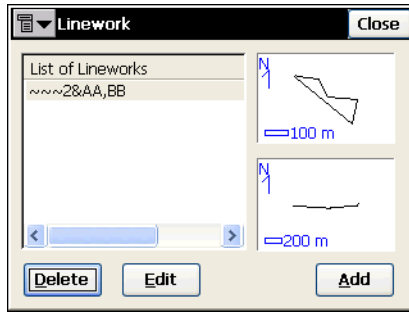

Figure 4-47. Edit Linework
1. In the *Linework* screen, tap the **Add** button to create new linework (Figure 4-47).
2. To delete the linework from the list, tap **Delete** (Figure 4-47).